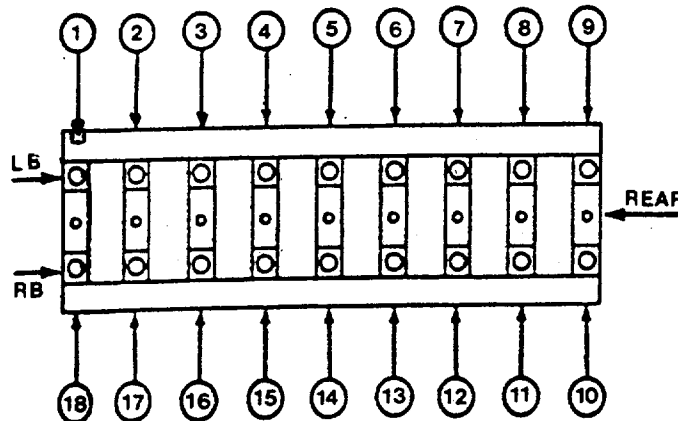

FIGURE 4-60. Side Bolt Torquing.
- n. Torque the side bolts (1, FIG. 4-47) using the procedure in Table 4-6 and the sequence in FIG. 4-60.